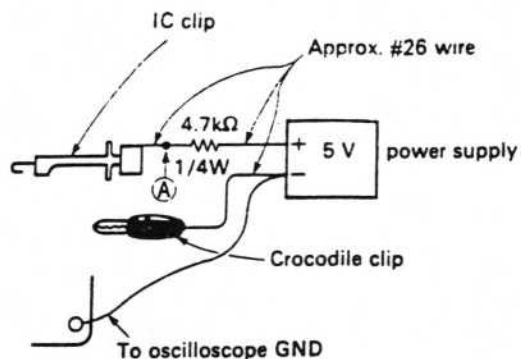
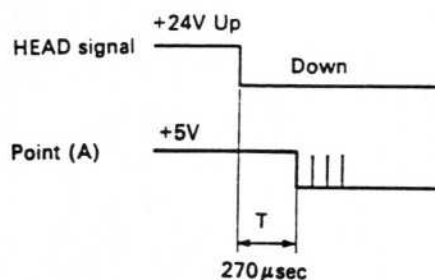

Fig. 3
Fig. 4
- (3) Disconnect the DISP IF cable from the connector at the back of the mounter main unit (see Fig. 4).
- (4) Prepare a jig as in Fig. 3
- (5) Set a PCB soldered on both sides on the PCB stand.
- (6) Attach the IC clip to the needle and the crocodile clip to the soldered board.
- (7) Observe the I/O board TrA4-7 pin (HEAD signal) and point (A) in Fig. 3 on the oscilloscope.
- (8) Switch on the + 5 V power supply.
- (9) Turn on the main unit power for the system, switch to TEACHING mode, switch ON/OFF the HEAD SW on the main unit operation panel and operate HEAD DOWN/UP.
- (10) The waveform for each signal will appear on the oscilloscope as in Fig. 4. Adjust the dispenser head speed controller (5) so that $T = 270 \mu\text{sec}$.